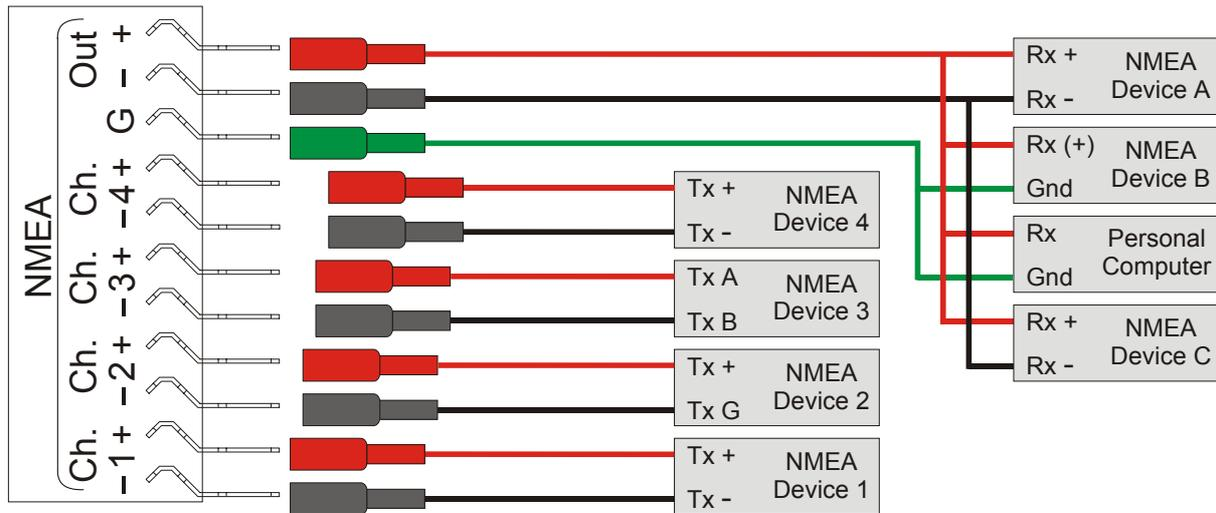

Figure 2 – NMEA 0183 connections
**NMEA Device's 1, 3 and 4:** These devices conform in full to the NMEA 0183 standard. Devices 1 and 4 share the same connection ID's as the **Actisense** NDC, so connection is a simple matter of matching the ID's (refer to figure 2). Device 3 uses the RS485 convention connection ID's. Simply connect 'A' to '+' and 'B' to '-' (refer to figure 2).